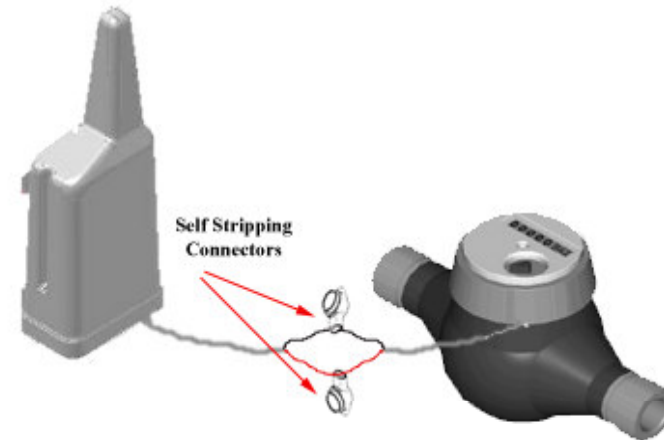

figure 4: wiring
2. Polarity: if a 'Passive Pulse' type meter is connected, there is no polarity so the wires can be connected in any order, if an 'Active Pulse' type meter is connected, there is a polarity and the wires have to be connected in the following order: Red wire to the POSITIVE (+) poll and the Black wire to the NEGATIVE (-) poll, (see figure 4).